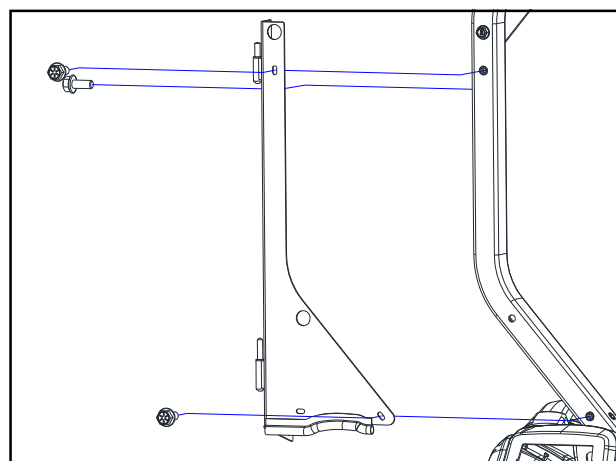

Fig. 4.1
4.1 Per Figure 4.1, fasten the left hinge plate to the ROPS using the factory installed inserts and hardware listed below. **Install finger tight at this time.**